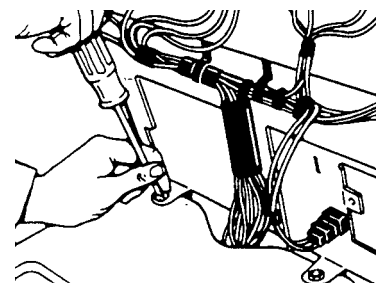

Fig. 15
2. Remove the three screws at the back of the dryer top. (Fig. 15)